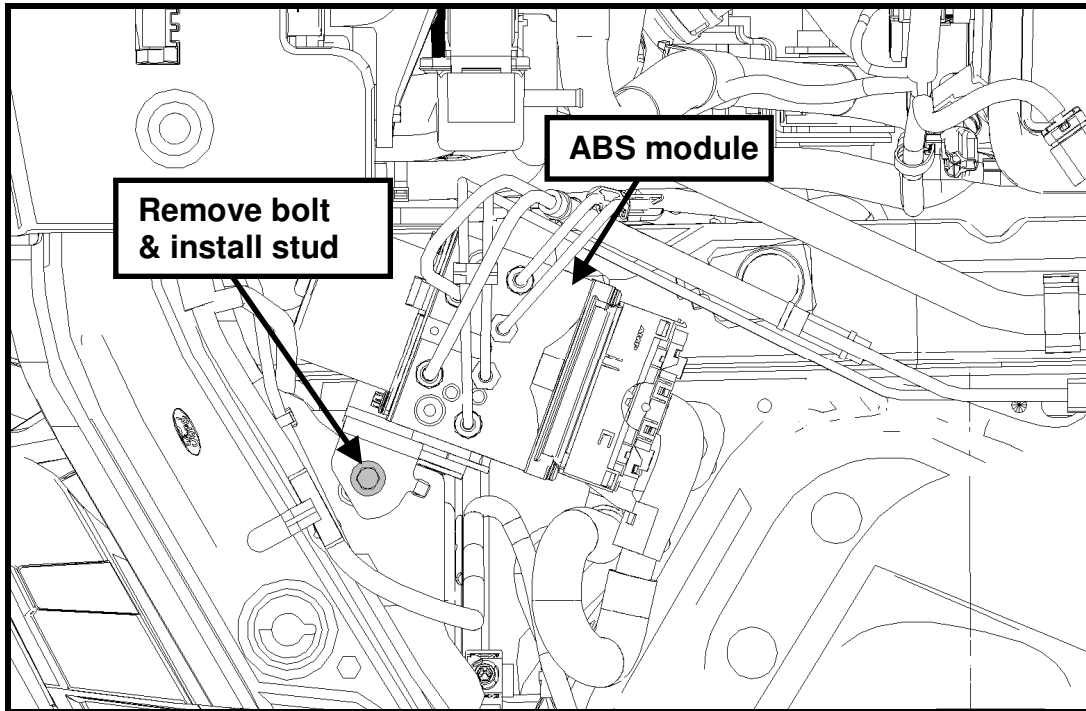

Fig. 5
**STEP 2:** Locate the ABS module bracket and remove the bolt shown below (Fig. 5). If vehicle is non-ABS, install U-nut in this location.
**STEP 3:** Install stud in this location and torque to 25 Nm (221 lb-in) (See Fig. 5).